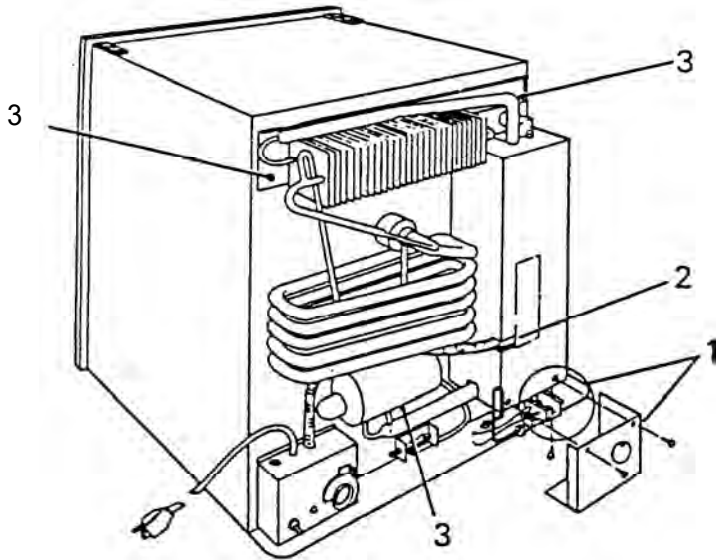

FIG. E1
1. Remove cover and disconnect burner from chimney (FIG. E1).
2. Remove heater from boiler case (FIG. E1).
3. Remove three (3) screws holding unit from rear (FIG. E1).
6. Reconnect burner assembly to chimney and replace cover (FIG. E1).
7. Install the heating elements completely back into the pocket (FIG. E1).